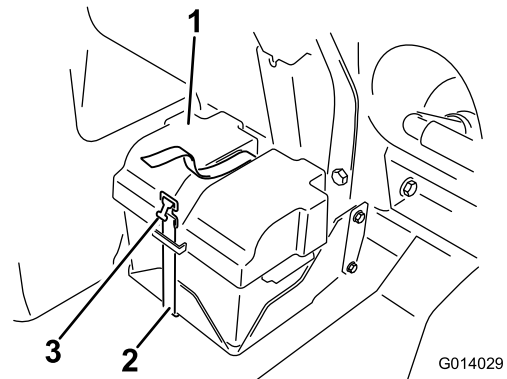

Figure 82
2. Remove the battery cover and disconnect the negative (black) ground cable from the battery post (Figure 82).
4. Install the battery cover and secure it with the strap that you removed previously (Figure 82).